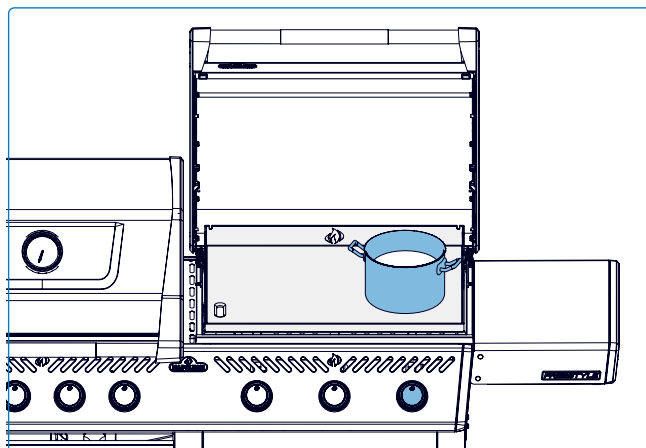

Fig. 17
- **Always operate the griddle with the lid open.** Preheat the griddle surface before adding food (**Fig. 17**).